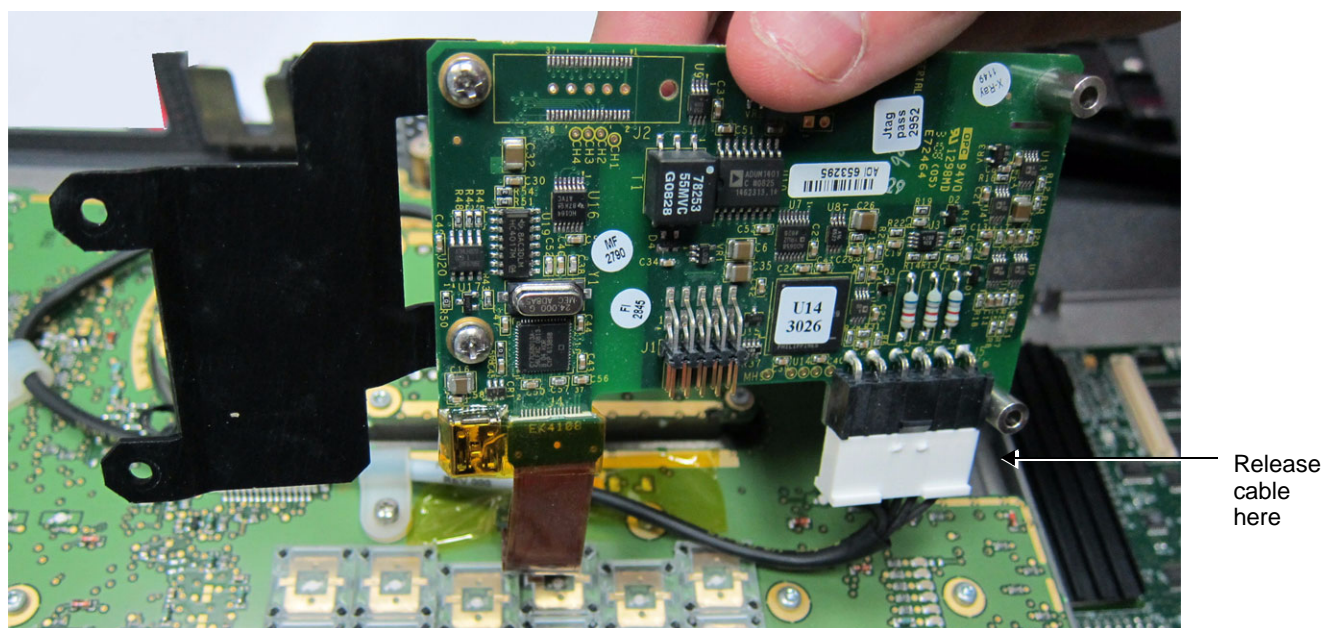

Figure 8-21 Disconnecting the ECG Module Cable
- 3) Lift and tilt the ECG Module on its side, then disconnect the ECG Module cable - see Figure 8-21..
- 3) Re-connect the ECG cable - see Figure 8-21, above.